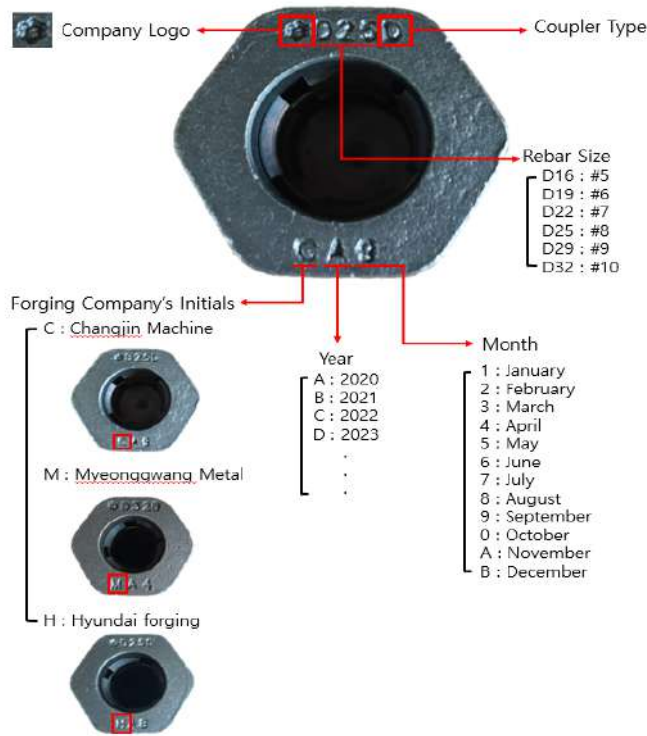

FIGURE 2—WELLSYS COUPLER STAMPING IDENTIFIER
7.1 Each Wellsys One Touch Coupler Type D will be identified with a stamping as per Figure 2 and the ICC-ES evaluation report number (ESR-4572).